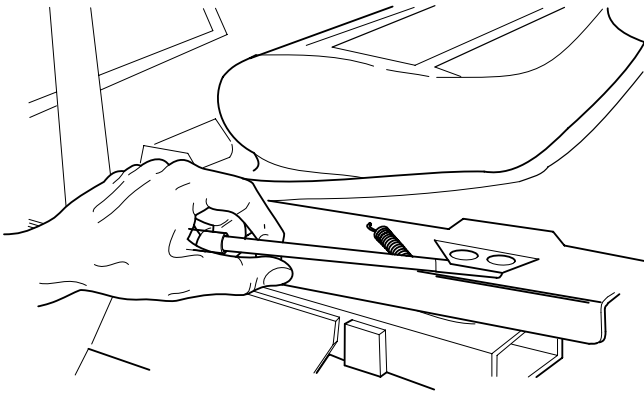

Figure 4-5 Seat Adjustment
1. Pull the handle on the left side of seat (Figure 4-5) and move the seat either forward or back.